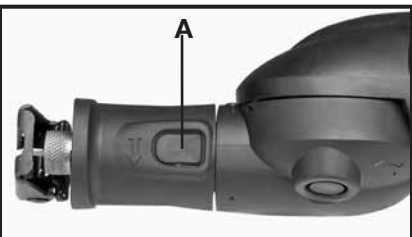
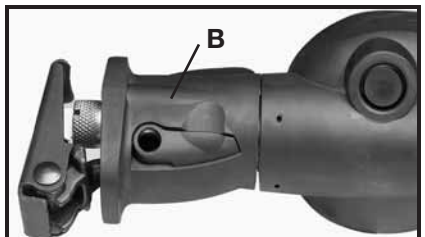

Fig. 8
Fig. 9
3. To rotate the front scroll housing, depress lock button (A) Fig. 8. Hold the button depressed while moving the front scroll housing clockwise or counterclockwise to the desired radial position or angle. Then release the lock button and continue to move the front scroll housing until the lock button snaps into the desired detent position (B) Fig. 9.